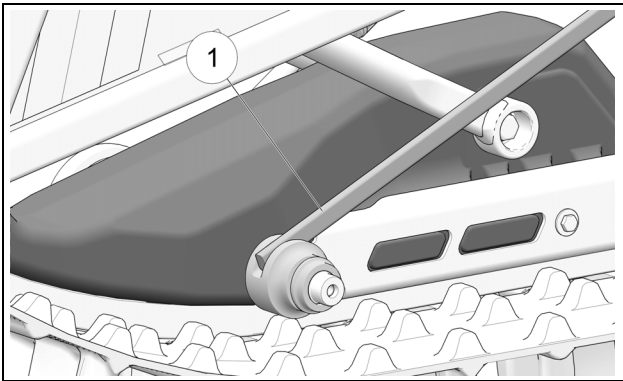

Figure 11
- Using an appropriate tool, lift the long end of the spring (1) out of its groove to release the tension. See Figure 11.